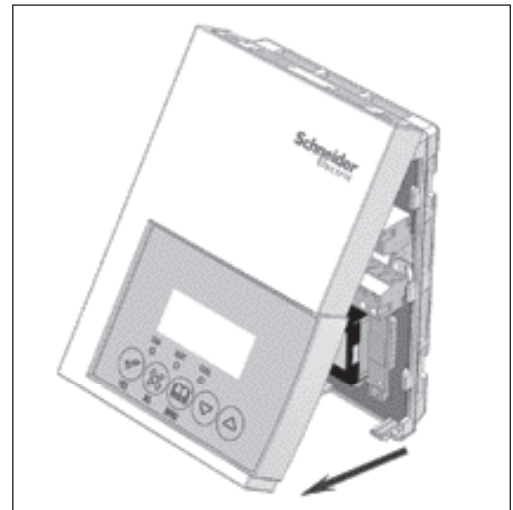

Figure-1 Opening the Cover
- Open the unit by pulling on the bottom side of Terminal Equipment Controller (Figure-1).